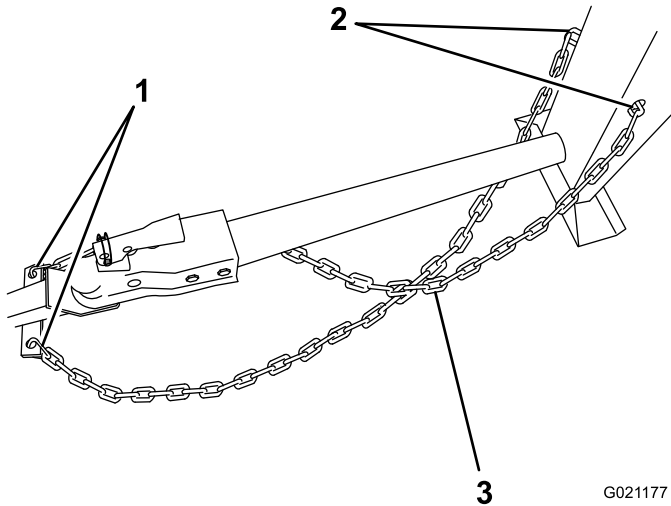
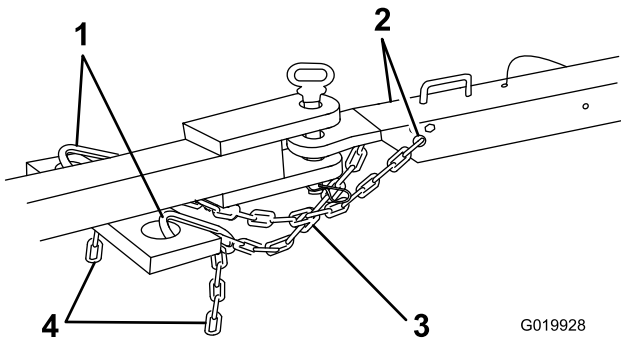

Figure 26
Figure 27
2. Cross both lengths of chain **under** the tow pole (under the tongue for end-dump models). For side-dump models, refer to Figure 26. For end-dump models, refer to Figure 27.